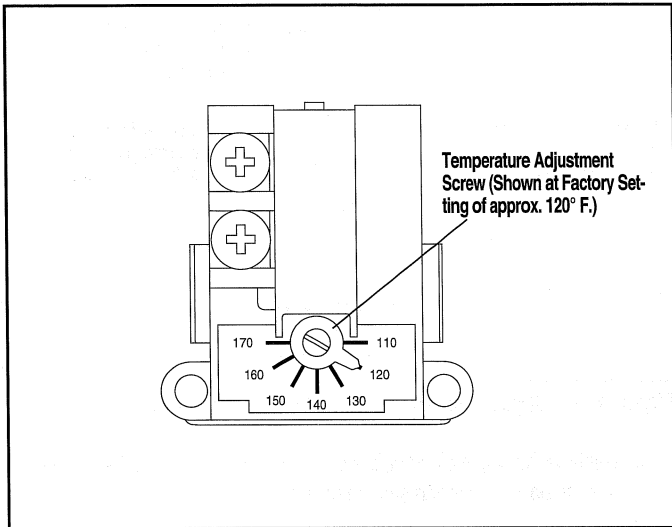

Figure 13 — Lower Thermostat temperature adjustment.
2. Remove the four (4) screws securing the thermostat access panel and the two (2) thermostat insulation pads, exposing the thermostat. The plastic personnel protector **should not be removed**.
3. With a small screwdriver, adjust the thermostat setting. This thermostat is marked in degrees from 110°F to 170°F. The thermostat is factory set to the 120°F position (the recommended setting). (Refer to Figure 13).